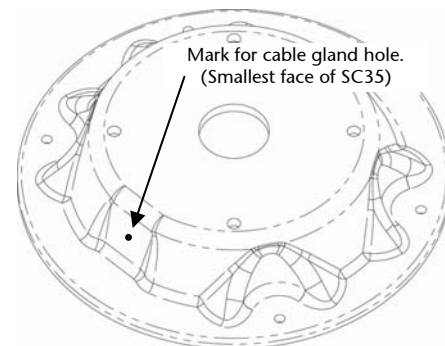

Figure 2
1. Drill a 13/32" / 16.5mm hole in the smallest face of SC35 with the hole centre indicated by the small dent in the SC35 - (**See figure 2**).